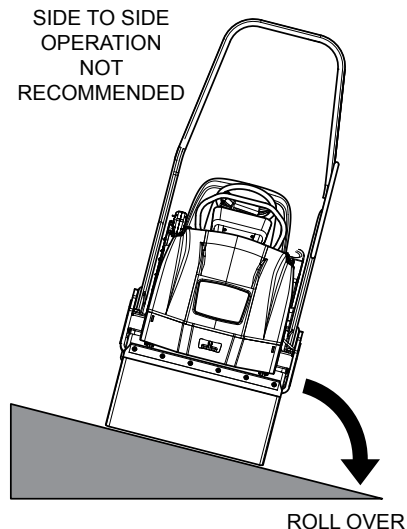

Figure 3. Improper Operation on Slope
**NEVER** operate the roller on side slopes (Figure 3). The possibility exists that the roller could tip over (roll over), thus causing bodily harm, even death, and serious damage to the equipment.